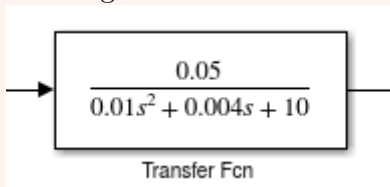

Figure 7.
1. Implement both the controlled system ($H(s)$) and the PID controller ($C(s)$) as a “Transfer Fcn” (Figure 7, or as you want).